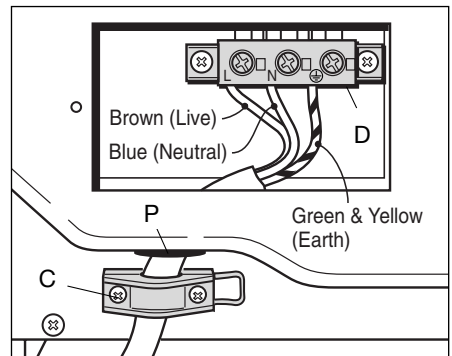

Fig. 10
- 3 Remove the screws "C" from the cable clamp (Fig. 10).